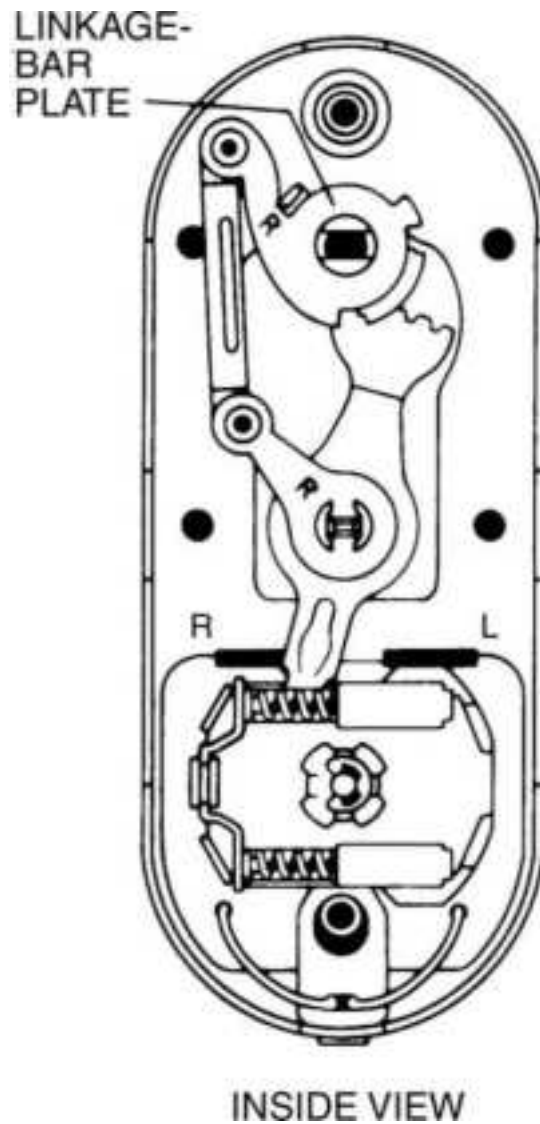

**Figure 13.108** Right-hand conversion, Step 16.
16. Install the linkage-bar plate (Fig. 13.108 ).